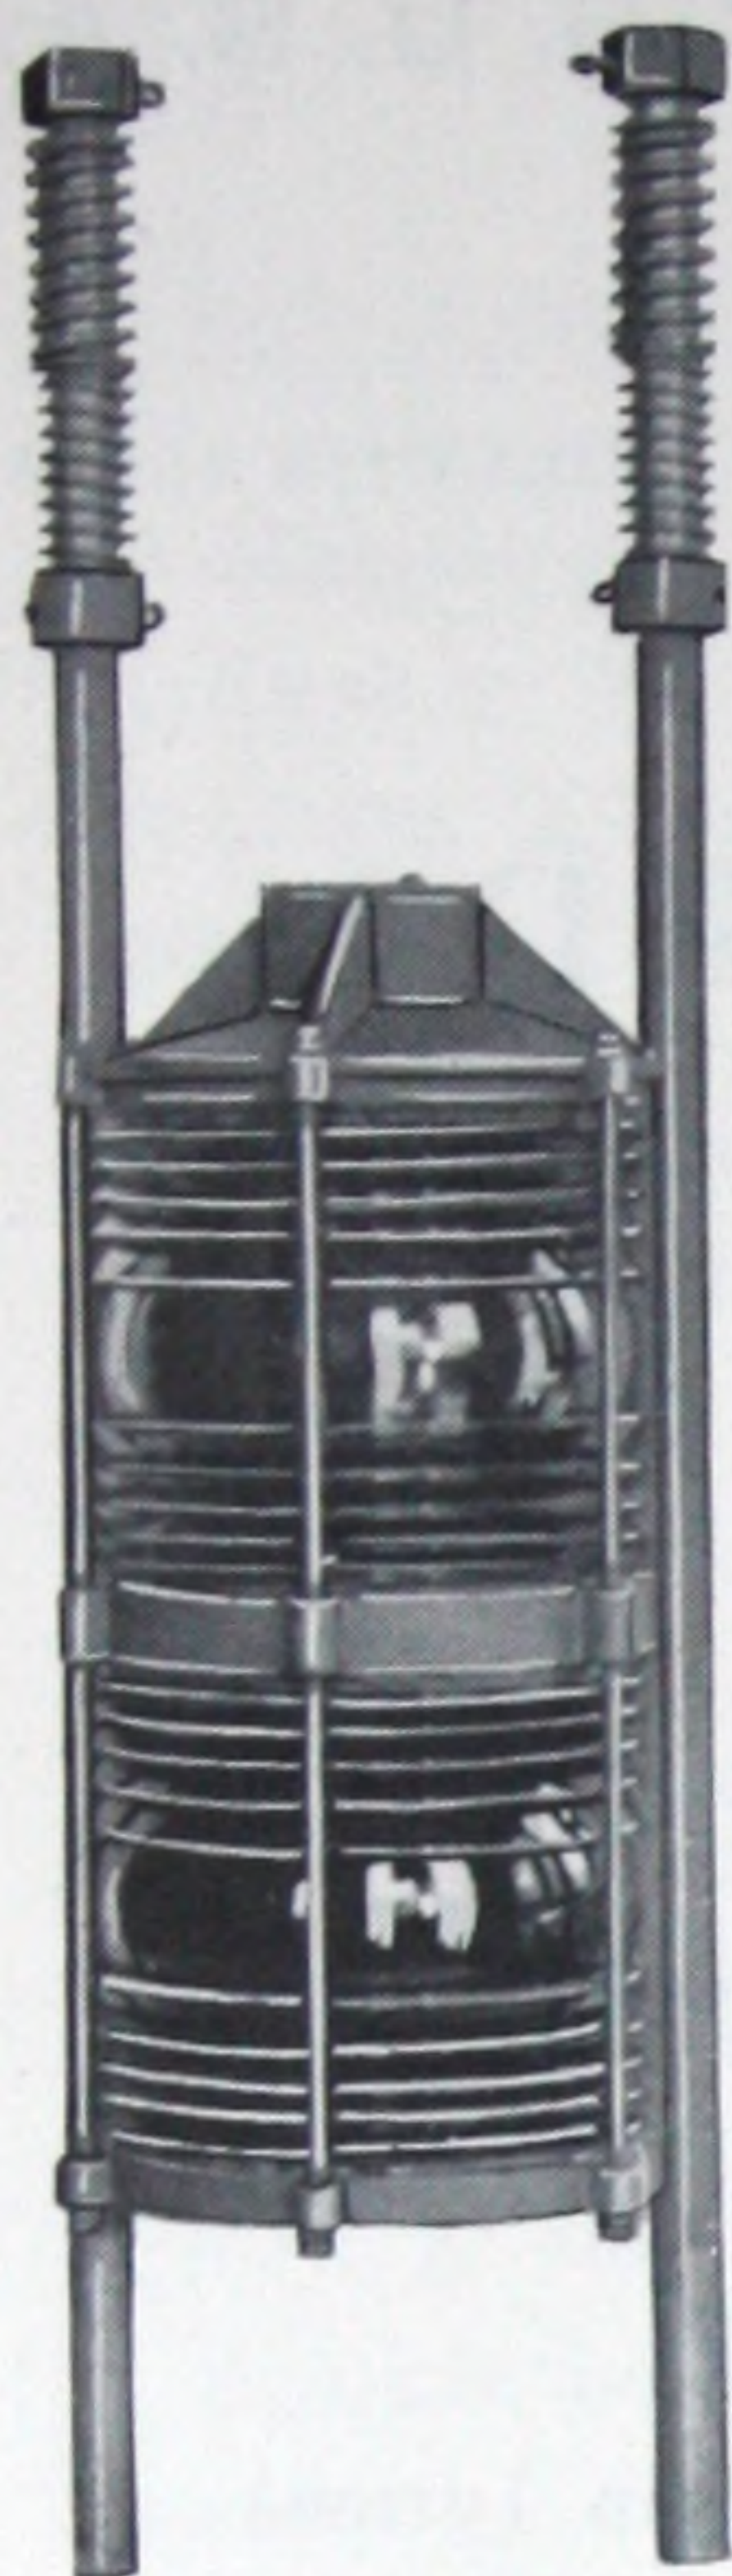

FIG. 3
- Fig. 3 Bridge Lamp Spring Suspension
Fig. 3 lamp is the most desirable mounting for either vertical lift or bascule bridge. The lamp is provided with spring mounting which absorbs all shocks and vibration, thus prolonging the life of the lamp filament. Both ends of supporting rods sheathed with brass sleeves. A platform mounting must be provided for relamping as the lamp is stationary.
The red and green lamps in both Fig. 2 and Fig. 3 are controlled from the limit switch on the main operating machinery so that the light changes from one to the other at predetermined points.